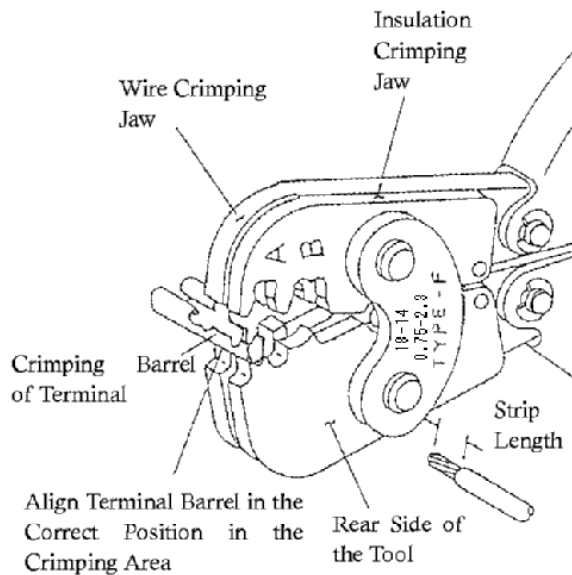

Fig.3
- (b). Insert the terminal into the crimping area as shown in Fig.3. Cautions must be taken care that the wire barrel and insulation barrel of the terminal area placed on the right position and direction in the area respectively.